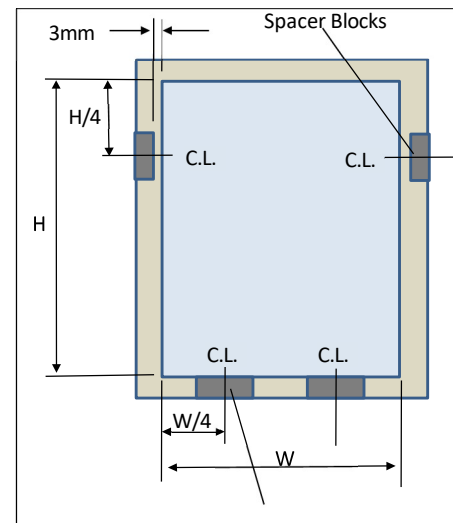

Figure 5 - Support and Spacer Block Locations
- One per side located on "vertical" edges at furthest ¼-point from gravity edge as shown in Figure 5.